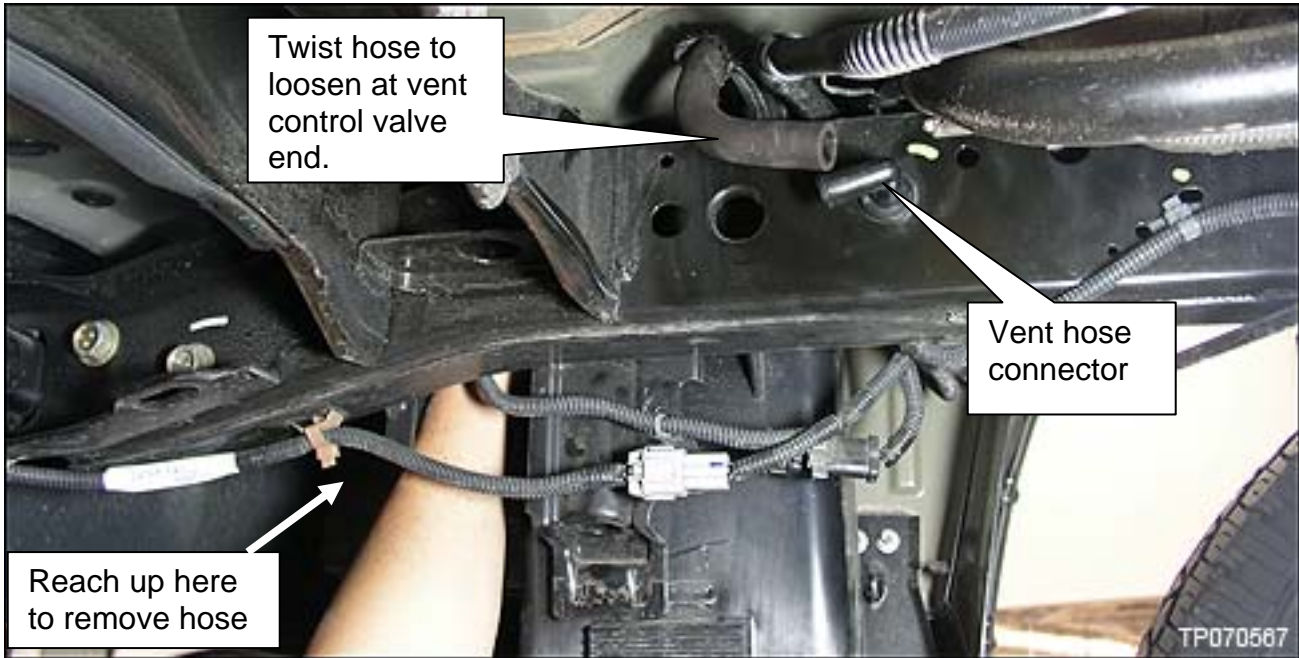

Figure 2
4. Reach above the EVAP canister and disconnect the vent hose at the vent control valve and remove the hose (see Figure 2).
5. Remove the vent hose connector; pull it straight out (see Figure 2).